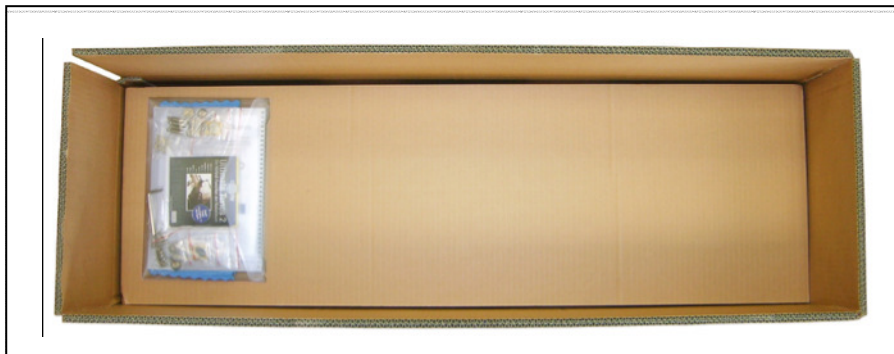

Figure 2. HRS-130 accessories
2. Open the carton flaps. The wallet containing the spikes and other accessories will be found on the top packing piece of one of the inner cartons as shown in figure 2.